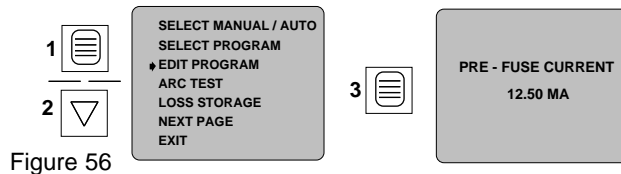

Figure 56
- a) Press the Program key. Then press the Increment/Decrement keys until the cursor lines up with the Edit Program line. Press the Program key again. The display will be similar to the second screen shown in Figure 56 - the current level may vary depending upon the program selected.